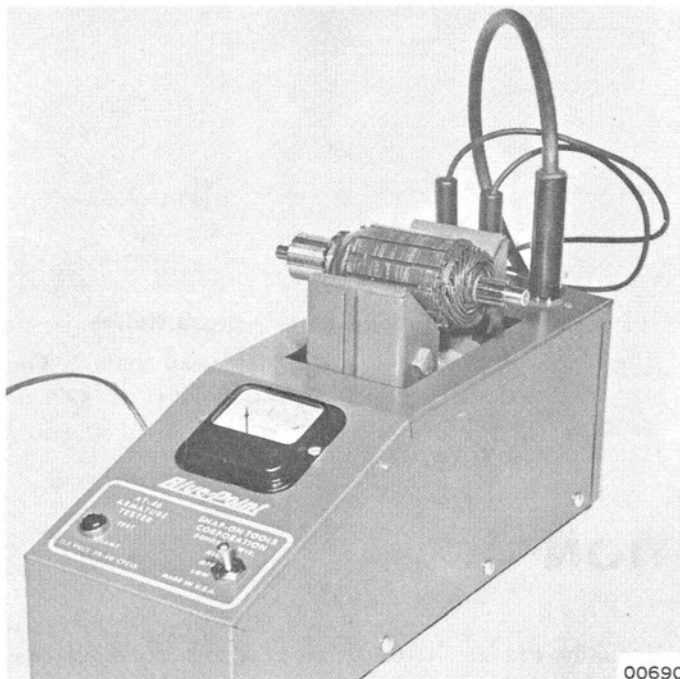

Figure 1. Armature Test
9. Check armature on a growler (Figure 1), or by placing Magneto Analyzer on Scale No. 3, and check for shorts between commutator bars and core. Any movement of analyzer needle to the right indicates a short. Clean carbon dust from armature, as this may be cause for short.